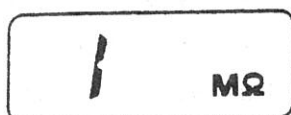

Fig 1
4. The built-in batteries are normal if the INSUL. TEST VOLT ON indicator (red LED) lights up and the LCD looks as shown in Fig. 1.
4. When the measurement object has resistance of more than 200MΩ at 500V or 20MΩ at 15V, the LCD shows the same over-input display as that displayed when the measuring terminals are open, as shown in Fig. 1 under section [4]4-2, "Checking the Built-in Batteries" on page 5.